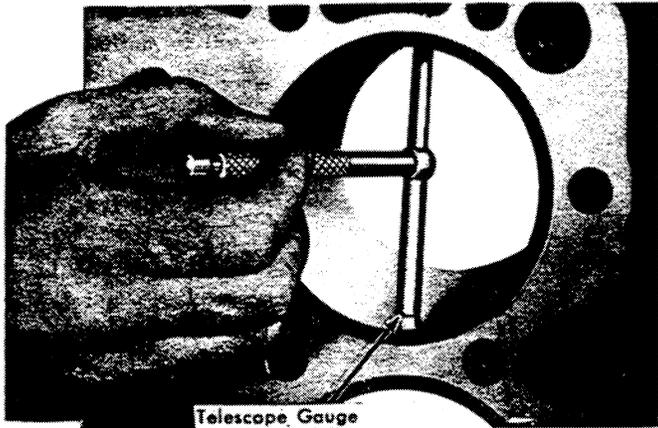

Figure 35
3. Inspect the cylinder bores for scoring, taper, out-of-round, and wear, with a cylinder bore gauge, telescope gauge or inside micrometers, Figure 35.